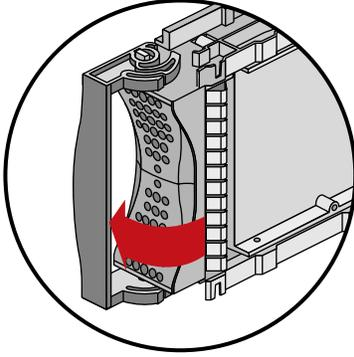

**Figure 5-4** Opening the SCA Disk Drive Units
Disk drives in the compute module are aligned vertically at the front of the chassis. Note that the leftmost disk drive—the system disk—is oriented differently from the others as shown in Figure 5-4.
1. To remove a disk drive module, snap the handle to the right or left (depending on the drive orientation) to the open position. The handle is centered, as shown in Figure 5-4.